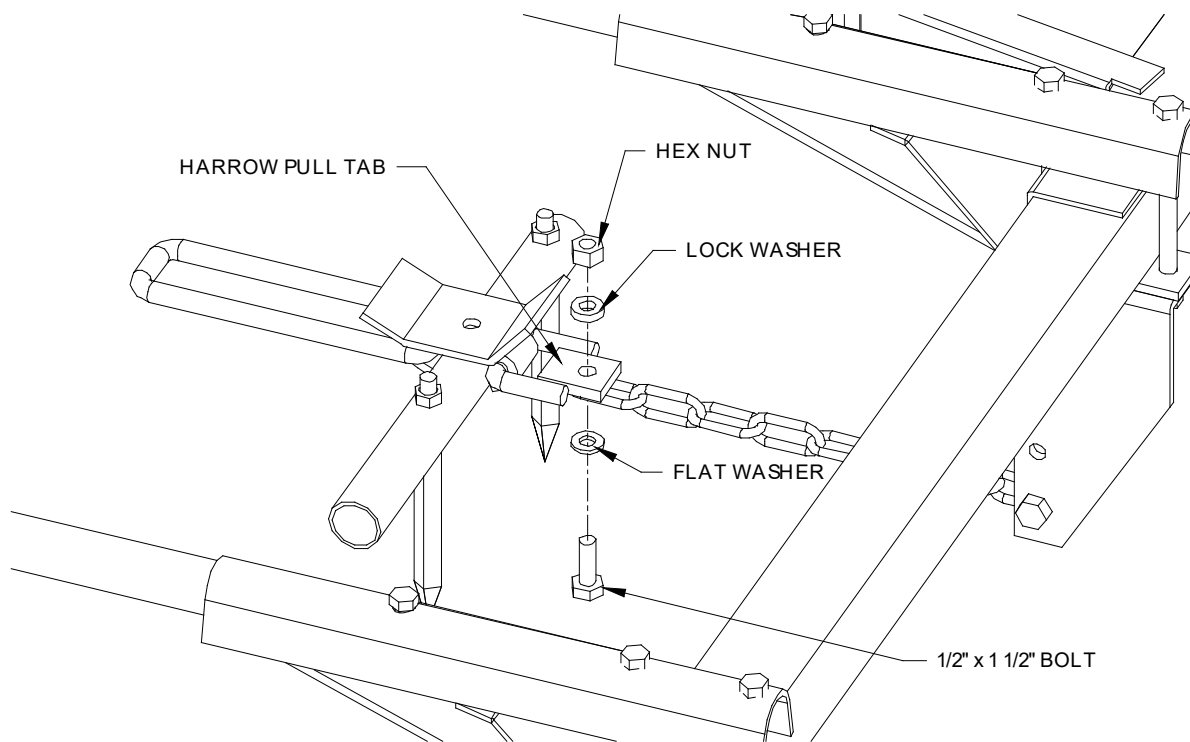

Figure 23
2. Attach the pull chains as shown in Figure 23; use a 1/2" x 1 1/2" bolt, flat washer, lock washer, and hex nut. Make sure the pull chains are not twisted, or binding may occur during transporting or when the harrow is being used in the fields.